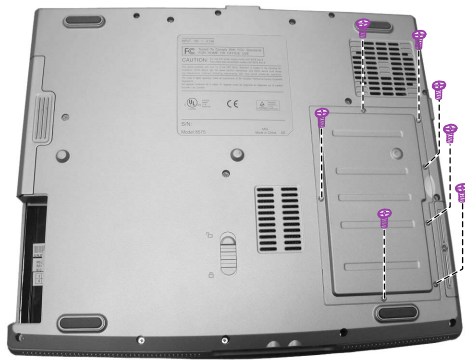

Figure 2-13 Remove the SO-DIMM cover
2. Remove seven screws to access the SO-DIMM socket. (Figure 2-13)